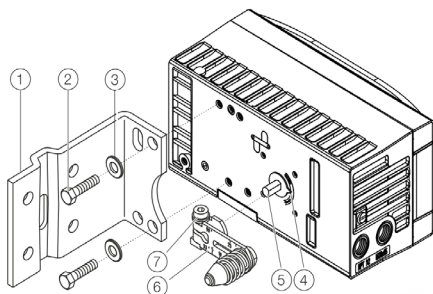
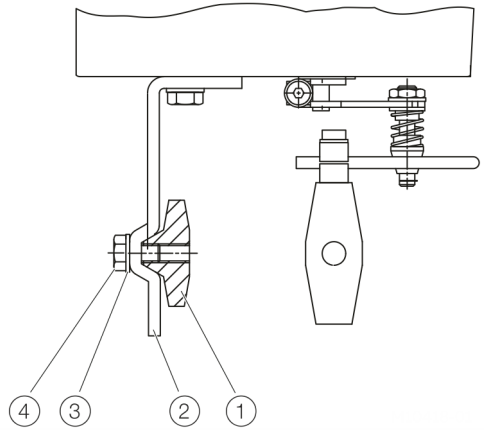
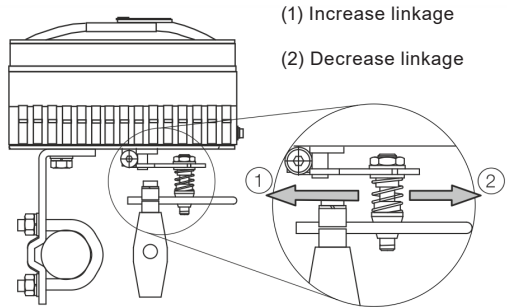

Fig. 3
Fig. 4
Fig. 6
Tighten the screws as evenly as possible to ensure subsequent linearity. Align the mount bracket in the oblong hole to ensure that the operating range is symmetrical. Set the valve mid stroke and align the lever horizontal (item 6 Fig. 3) then tighten mounting bolt (item 4 Fig. 4) (lever moves between the arrow marks Item 4 Fig. 6).